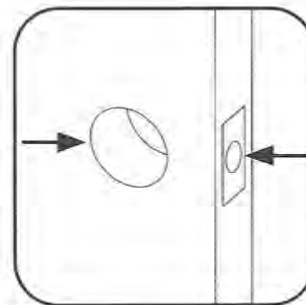

Figure 1
1.1: For a new door that does not have the hole already drilled for the installation of a Bored Cylindrical Lock or Latch (see the holes in **figure 1**), go to the separate instructions included labeled Bored Cylindrical Hardware Door Preparation.